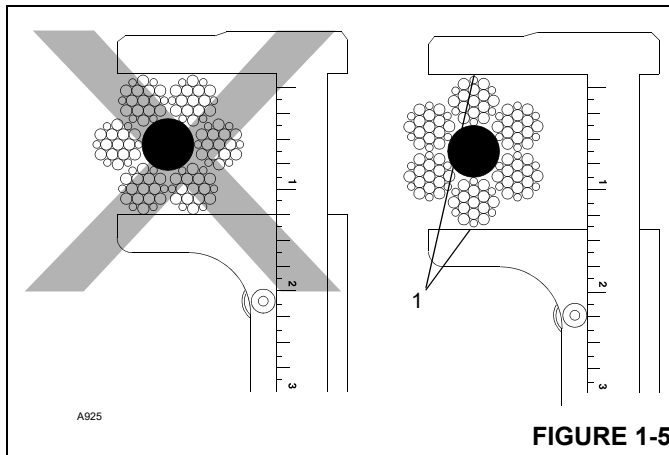

FIGURE 1-5
- Measure the rope's diameter across crowns of the strands when determining if rope has become damaged, refer to Figure 1-5.